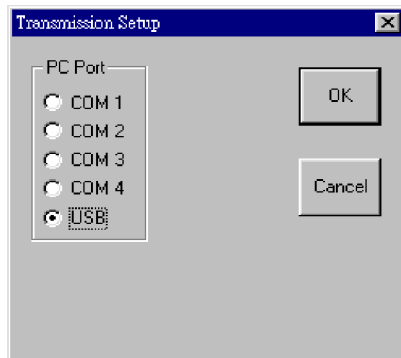

Figure D-23: Select “USB” port for download
- 2-2. From ADP, select “options” > “Transmission setup” to specify the computer’s USB port for the downloading operation, See Figure D-23.